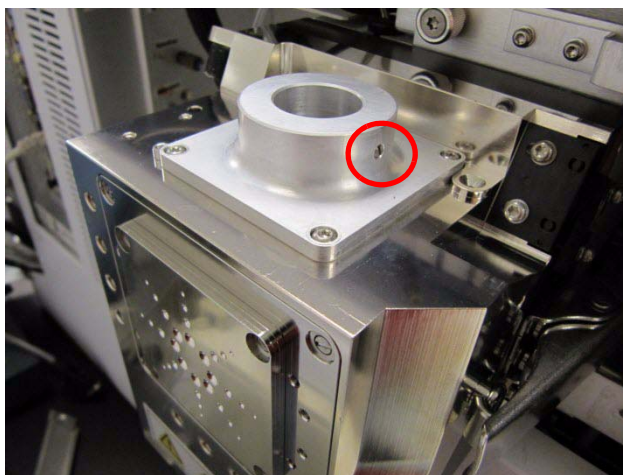

Figure 31 Camera Plate installed onto the Nanospray Slide Assembly.
- 5** Install the Camera Plate onto the top of the Nanospray Ion Source. Notice the orientation of the spring plunger in Figure 31.